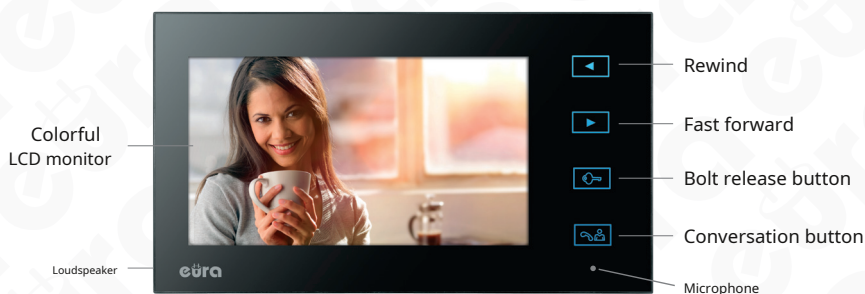
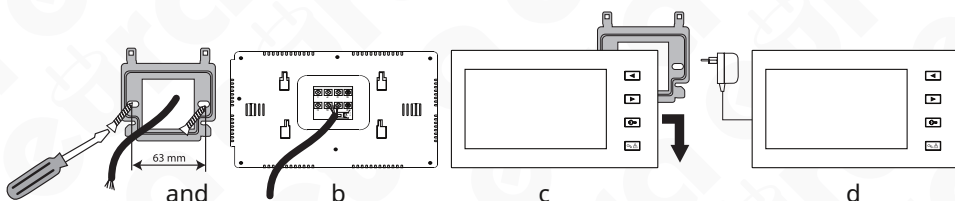
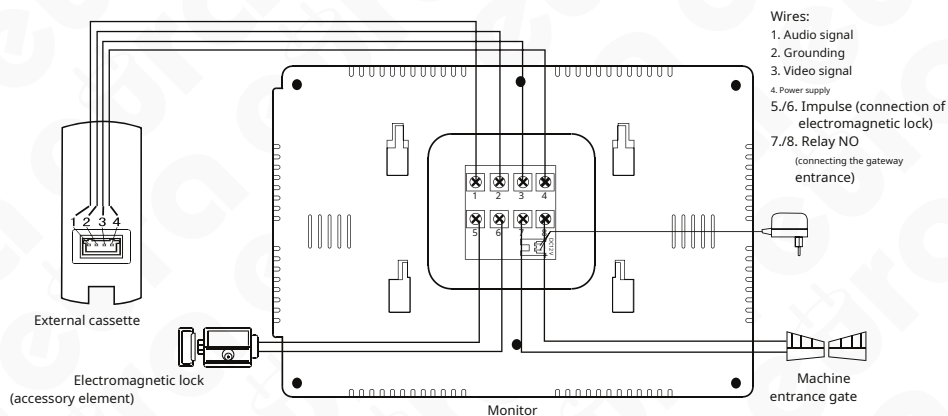

Fig. 1. Construction of the VDA-09A3 monitor
Fig. 3.
Fig. 6. Connection diagram of the set
The construction of the VDA-09A3 monitor is shown in Fig. 1.
2. Connect the individual wires of the cable to the connecting terminals located on the back of the monitor (Fig. 3) according to the diagram (Fig. 6)
3. Connect the plug of the power supply included with the set to the power socket (Fig. 1).
4. There are 4 holes on the back of the monitor housing (Fig. 1) for hanging the monitor on the mounting frame. Gently hang the monitor on the frame, in accordance with the direction of the arrow in Fig. 3, so that all 4 brackets from the frame are in the holes in the housing
The connection diagram of the system, which includes: external cassette, monitor, electromagnetic lock, optional entrance gate or garage door automation and power supply is shown in Fig. 6.
No image on the monitor	Check whether the correct order of placing individual wires in the plug connecting the external cassette with the monitor has been maintained. The individual wires connecting the monitor with the external cassette must be connected in accordance with the connection diagram (see Fig. 6).